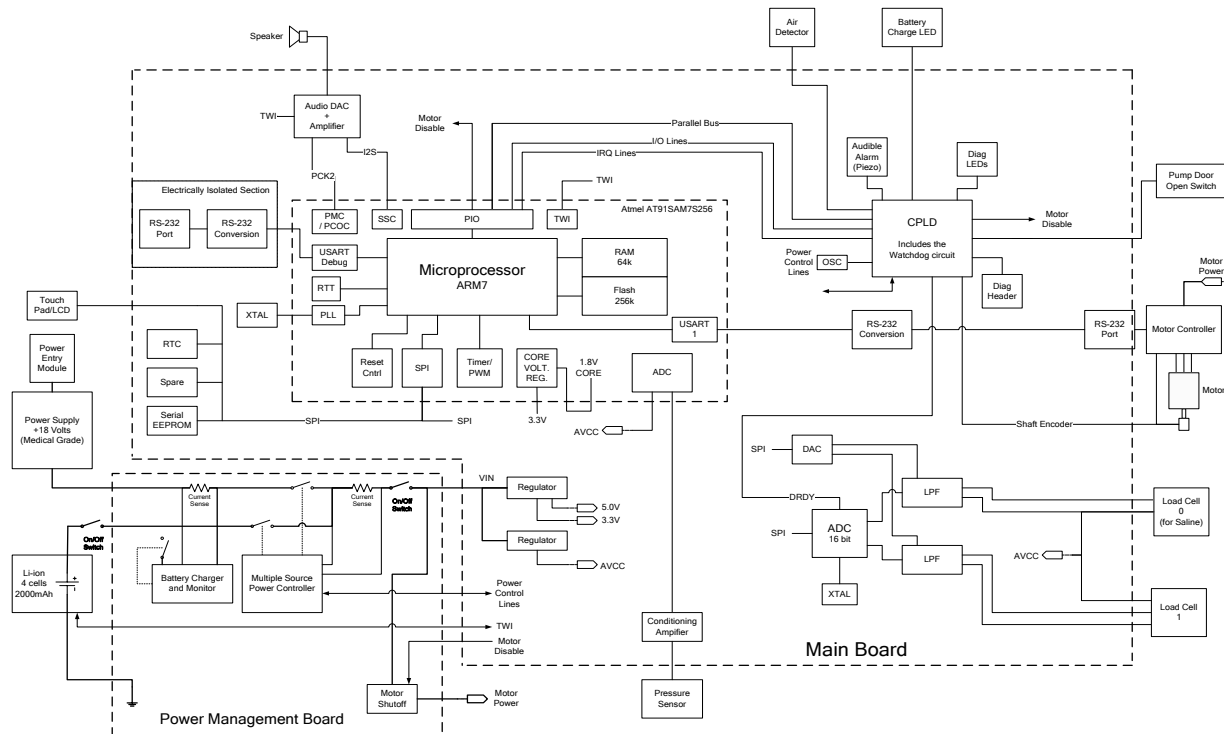

Figure 3 RG System Controller Block Diagram
- The RG System Controller which includes the system computer is contained within the MAIN printed circuit board (PCB). Figure 3 shows the central role of the controller in relationship with the rest of the RG.